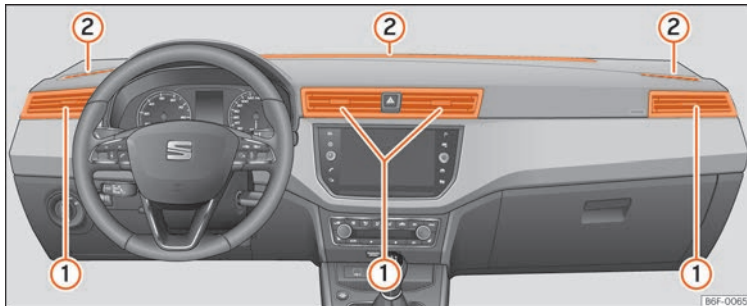

Fig. 169 Air vents.
To ensure proper heating, cooling and ventilation in the vehicle interior, air vents » **Fig. 169 ①** should remain open.